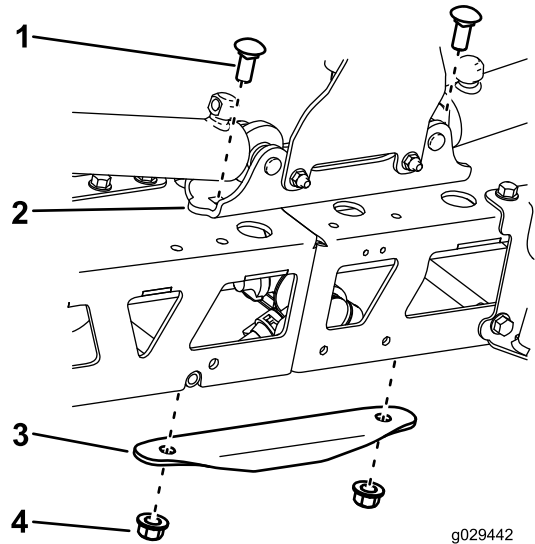

Figure 4
- Remove the stiffener plate and the cylinder-mount plate (Figure 4).